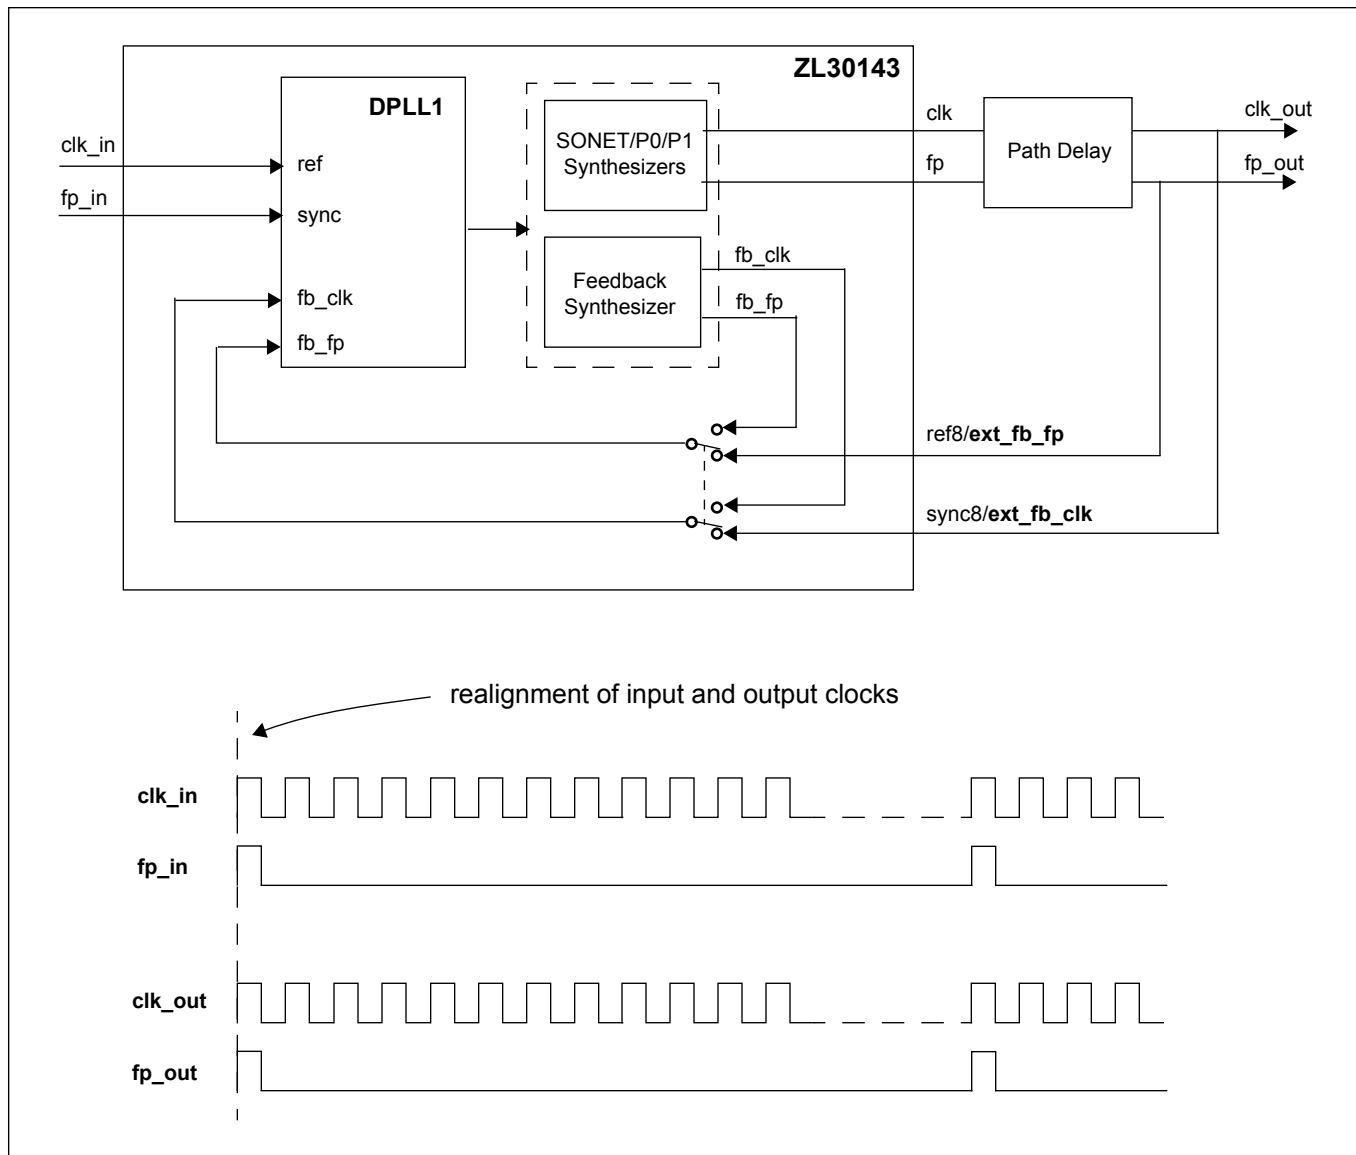

Figure 20 - External Feedback Configuration
In addition to the static delay compensation described in the “Configurable Input-to-Output and Output-to-Output Delays” section on page 38, the ZL30143 also provides the option of dynamic delay compensation to minimize path delay variation associated with external clock drivers and long PCB traces. This is accomplished by re-directing the internal DPLL1 feedback path to external pins and closing the loop externally as shown in Figure 20. The *ext_fb_clk_en* bit of the *fb_control* register (0x62) controls if the feedback path is internal or external. The *ref8/ext_fb_clk* and *ref8/extfb_fp* pins must also be configured as *ext_fb_clk/pf* pins using the *fb_ref8_sync8_ctrl* bit of the *fb_control* register (0x62).